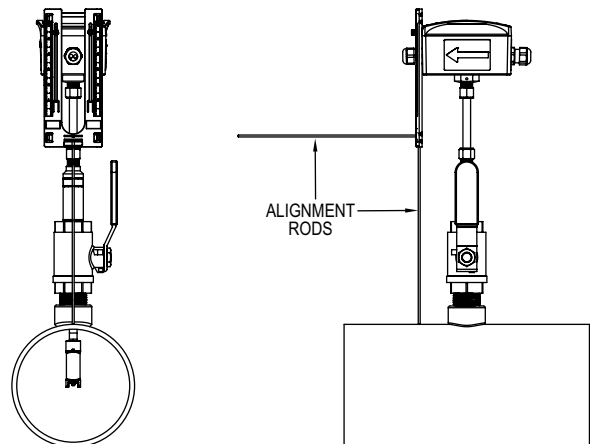

Figure 10: IEFB thermal energy meter alignment scale
- Insert the two rods into the alignment scale as shown in Figure 10.